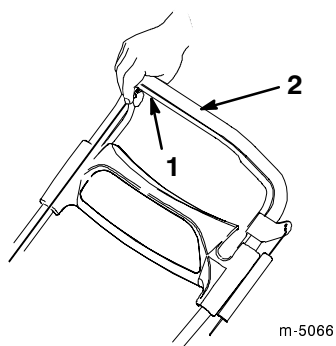

Figure 12
3. Hold the control bar to the right side of the handle as shown in Figure 12.